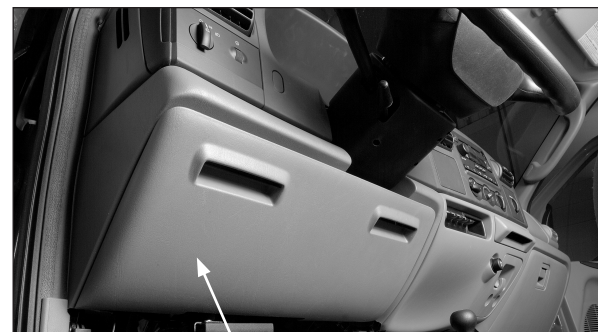

Figure 60
2. Locate and remove the customer access panel located on the lower left portion of the instrument panel (driver's side) (Fig. 60).